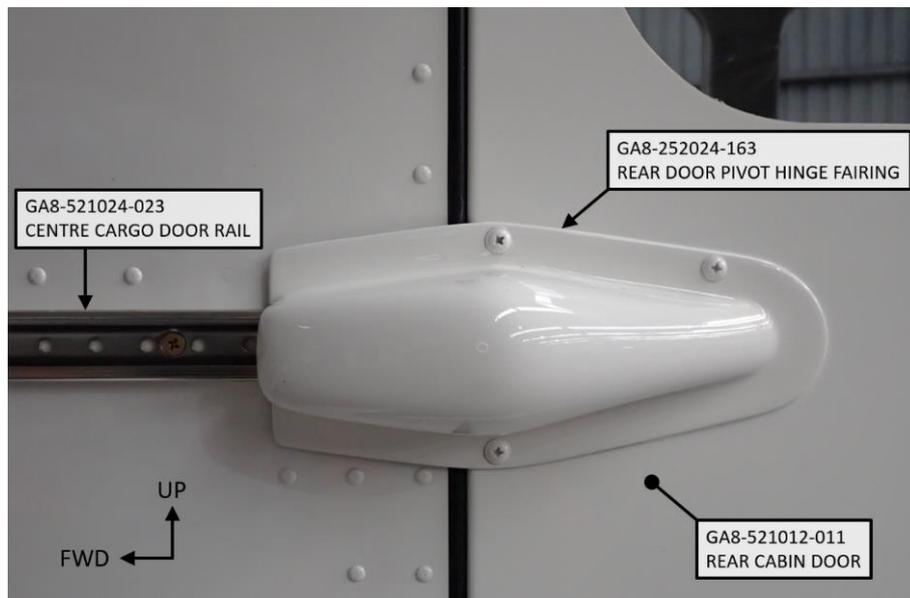

Figure 18: Removal of the Rear Door Pivot Hinge Fairing. View looking at the exterior surface of the aircraft's port side fuselage wall.
3. Remove the Rear Door Pivot Hinge Fairing identified in Figure 18.